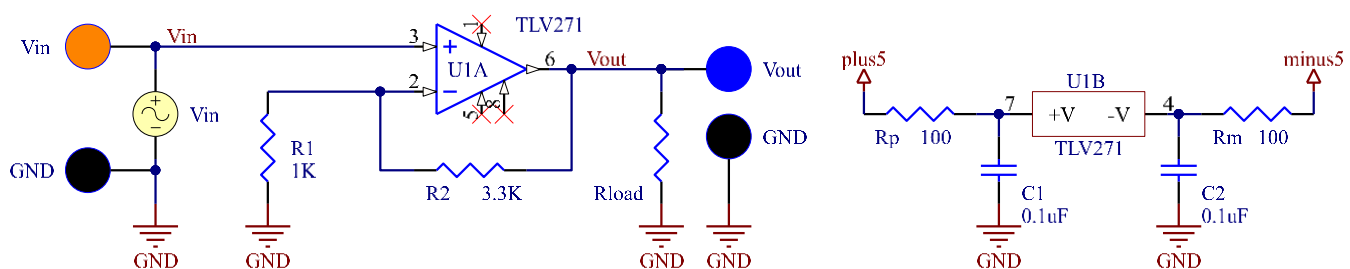

Figure 4: Non-inverting amplifier with gain and variable load resistor.
4. Qualitatively observe the output resistance of the op amp circuit shown in Fig. 4. This circuit is the same one in Figure 1 with the addition of a load resistor. In this case qualitative means: See if the output voltage changes when the load resistor changes. You will do this by measuring V_{OUT} with the scope.
7. Output current limit: Use the circuit from the Figure 4. Use an R_{LOAD} of 100 Ω .